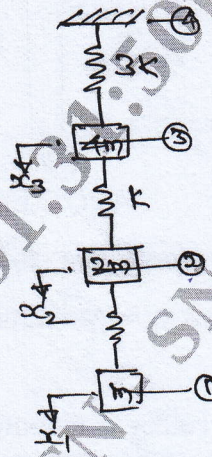

Fig.Q.7(a)
- 7 a. By the Holzer method find the natural frequencies of the system shown in Fig.Q.7(a). Assume $K = 1\text{N/m}$ and $m = 1\text{kg}$ (16 Marks)